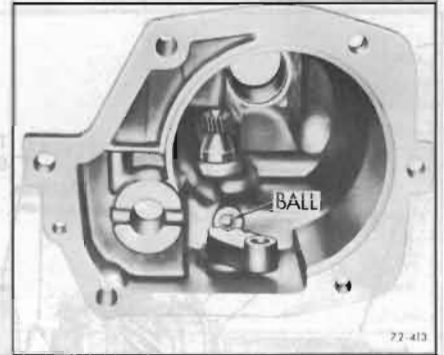

Figure 72-413—Installing Reverse Shifter Shaft
5. Place detent ball on spring, while holding ball down with a suitable tool, push the shift shaft into place and turn until the ball drops into place in detent on shaft detent plate. See Figure 72-413.